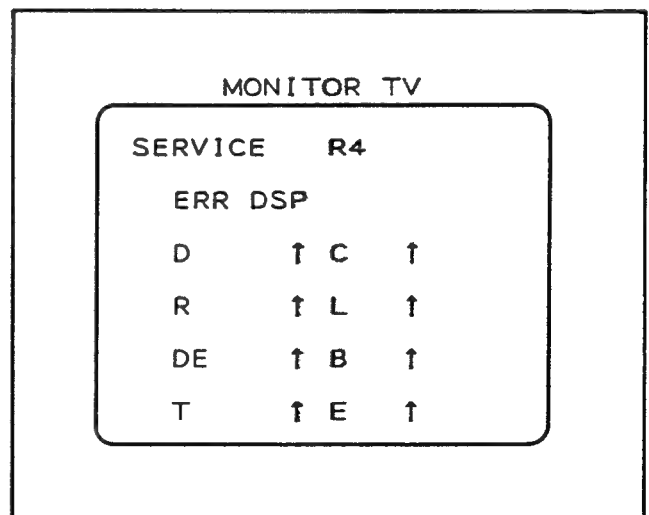

Fig. II-57
- (3) R4 : Current error detection (Fig. II-57)